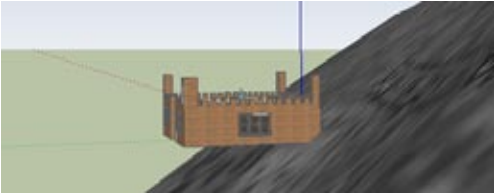

Figure 13-37
7. Now display the terrain view, either by adjusting the layer visibility or by clicking the Toggle Terrain icon. Now you can see the cliff slope. Move the model so that its lower-back edge is against the cliff (Figure 13-37).